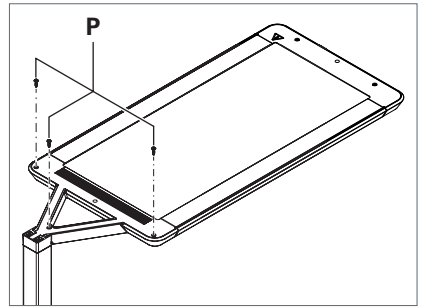

Fig. 10: Screwing the cover tight.
- ▶ Screw the cover tight using the three screws **P**, see Fig. 10.